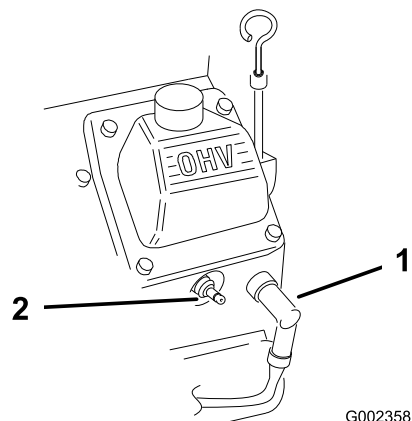

Figure 51
2. Disconnect the wires from the spark plugs (Figure 51).